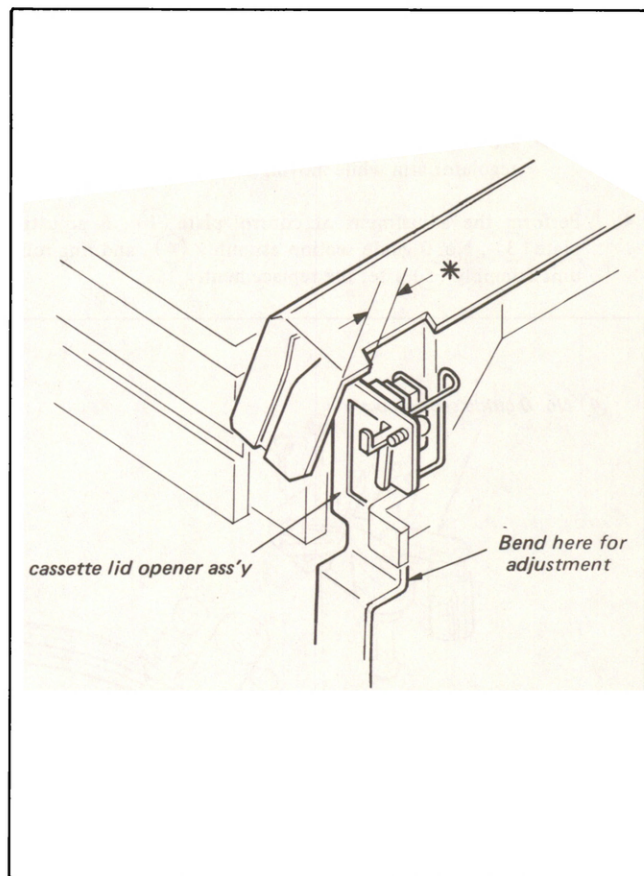

Fig. 3-25. Position adjustment of cassette lid opener metal (2)
- (i) Bend the lower section of the cassette lid opener bracket so that the cassette lid opener bracket positions itself almost at the center of the space marked by asterisk(*) shown in Fig. 3-25, when the cassette is placed on the four position determining posts.